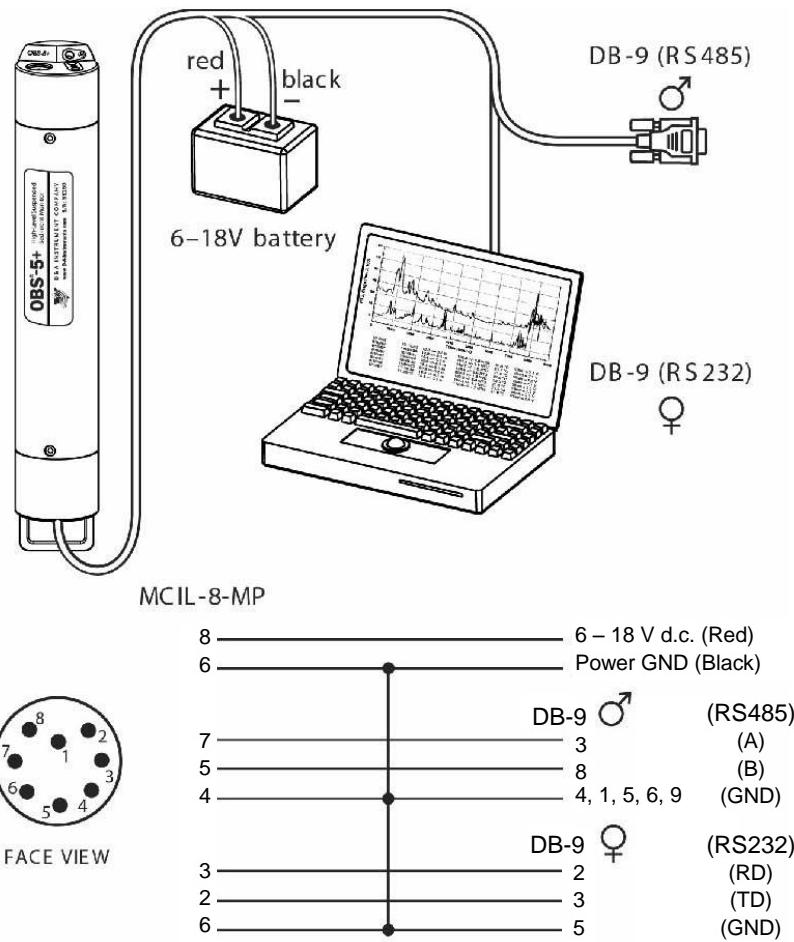

Figure 6-1. Electrical connections
The OBS-5+ will usually be towed with a cable harness for surveys. The serial cable can tow the OBS-5+ without a depressor weight or vane as long as the connector is strain relieved. Strain relief can be provided by attaching the cable to the stainless steel housing (Figure 4-1) with a cable grip and a length of 3 mm (1/8 in) wire rope. Install a cable clamp with a 0.5 m wire rope to the serial cable, and clamp the wire rope to the pressure housing with two stainless steel hose clamps, providing a small loop of slack cable to absorb towing forces. The unit can be powered with an external battery, as shown on Figure 6-1, and the serial output can be transmitted by either RS-232 or RS-485 protocols. The latter protocol is recommended for cable lengths greater than 25 m. An RS-485/232 serial converter is provided with each unit. An RS-232 to USB converter is an available option.
- 4) Connect the OBS-5+ to a PC with the test cable (Figure 6-1).
- 1) Remove dummy plug and connect OBS-5+ to PC with test cable (Figure 6-1).